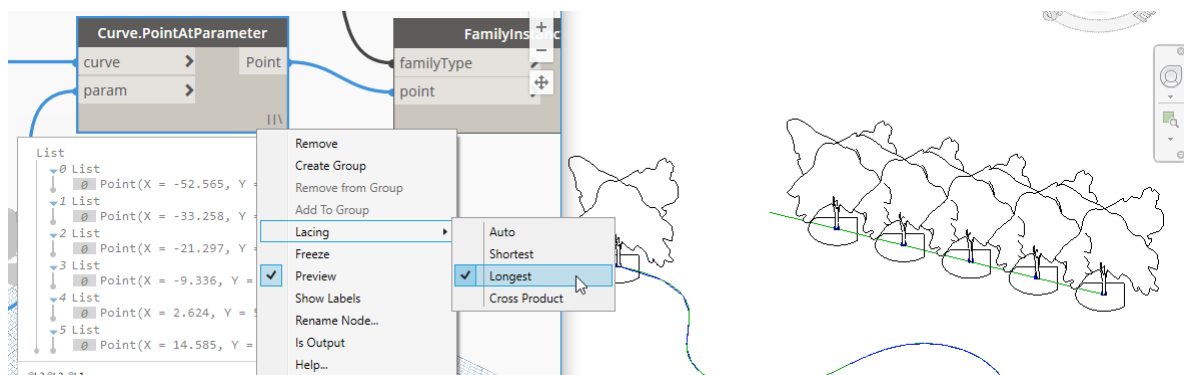

FIGURE 38
22. Right-click on the **Curve.PointAtParameter** node and choose: **Lacing>Longest** (see Figure 38).